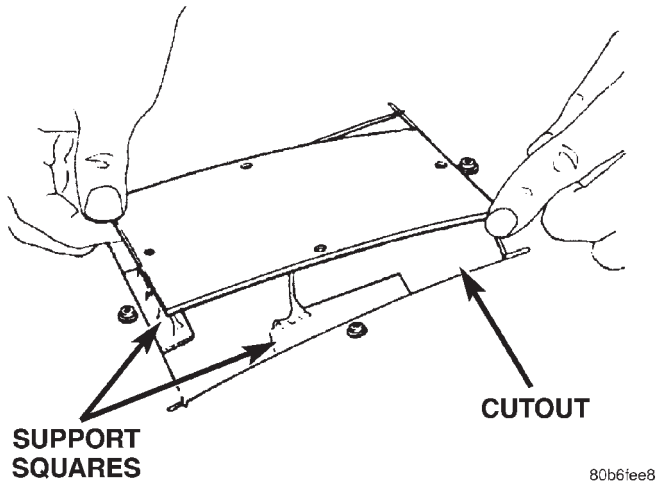
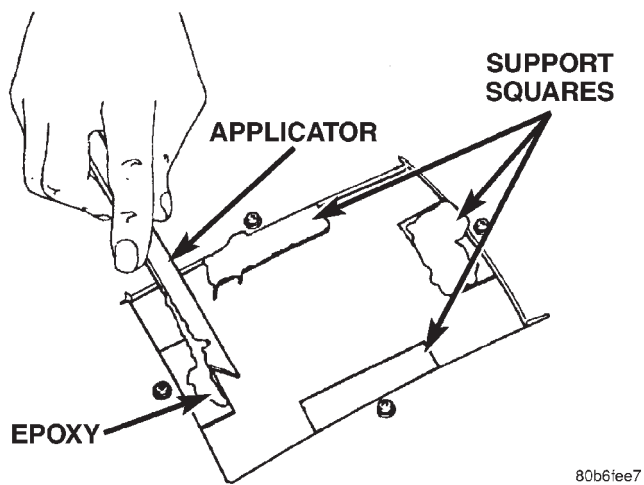

Fig. 11 Position Patch In Cutout And Align
Fig. 12 Apply Epoxy To Support Squares
(12) Position patch in cutout against support squares and adjust patch until the gap is equal along all sides (Fig. 11).
(13) Drill 3 mm (0.125 in.) holes in the support squares through the pre-drilled holes in the patch.
(14) Apply a coat of epoxy to the exposed ends of the support squares (Fig. 12).